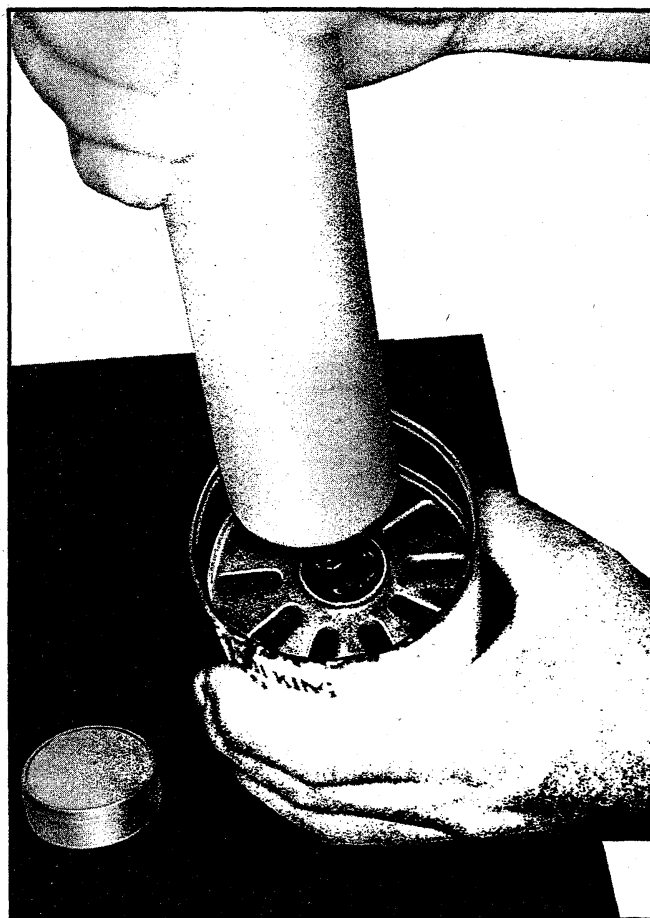

Fig. 59—Placing Caulking Material in Cartridge
16. Place caulking material in cartridge as shown in Figure 59.